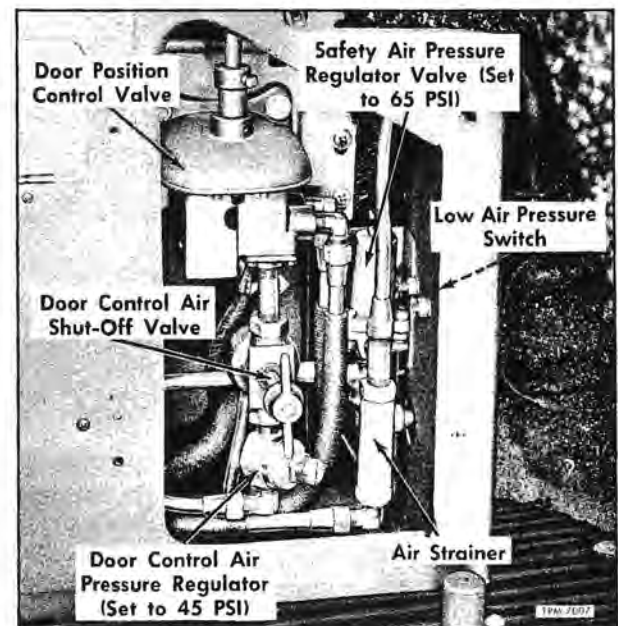
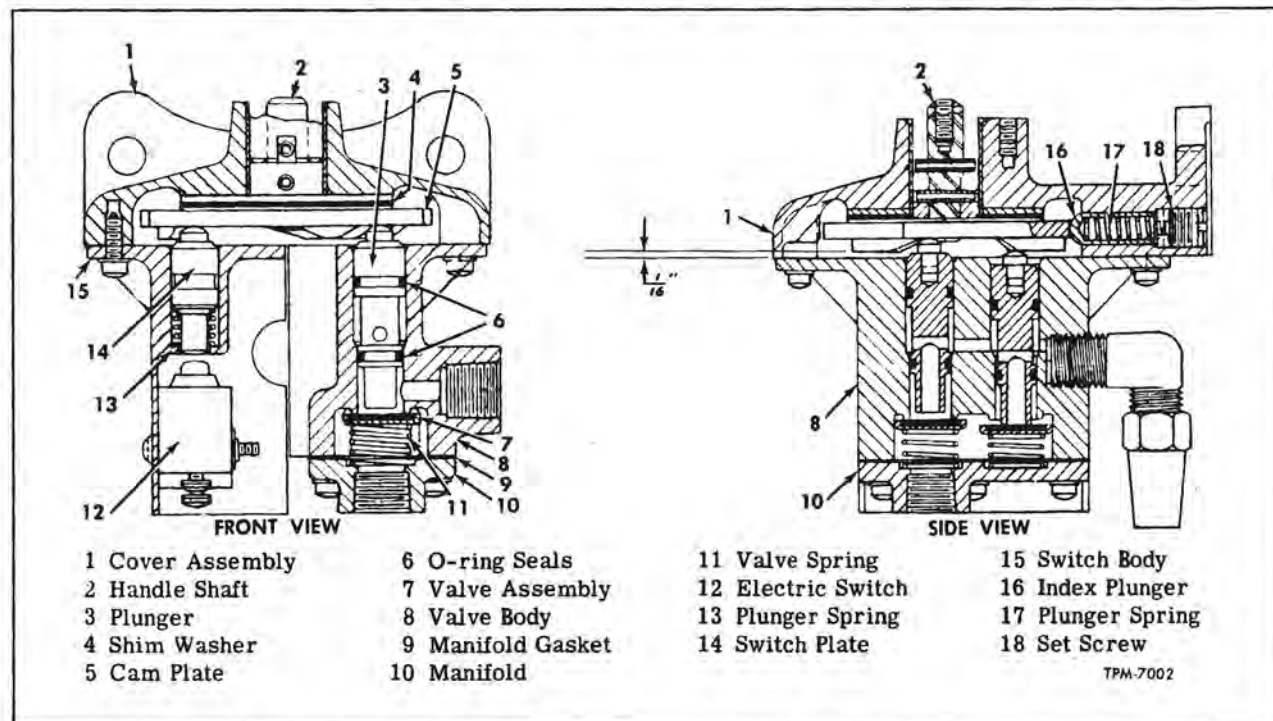
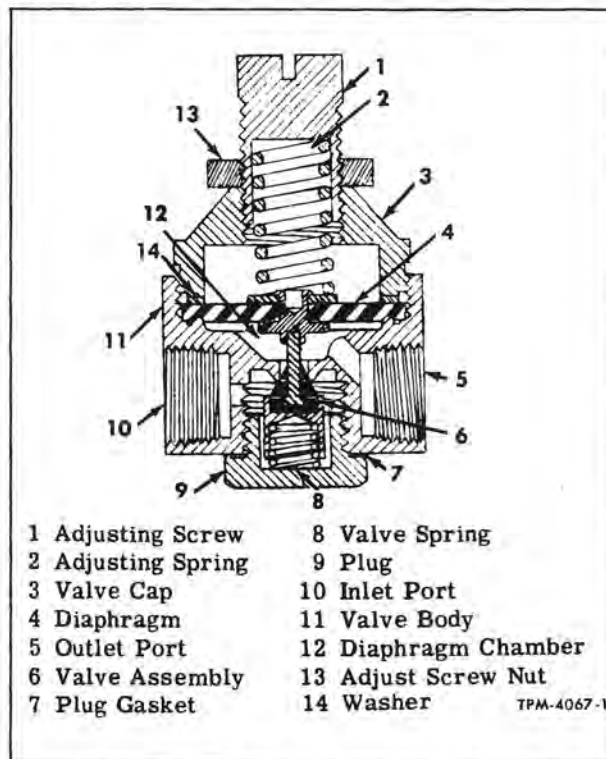

Figure 4—Door Control Units At Left of Driver
Figure 5—Sectional View of Door Control Valve
Figure 7—Front Door Air Pressure Regulator Valve
Valve controls the supply of air to operate front door engine. When valve is turned to "OFF" position, door can be manually opened and closed. Valve is installed as shown in figure 4.
Door control valve (fig. 5) is mounted below window sill at left of driver (fig. 4). Valve should be lubricated semi-annually. Turn door shut-off valve handle at left of driver to "OFF" position. Remove control valve from coach then disassemble.
NOTE: Key numbers in text refer to figure 5.
Pressure regulator valve (fig. 7), connected in air system is mounted in back of driver's control panel (fig. 4). Valve regulates air pressure (45 psi) to front door engine. Adjustment of valve is described later under "Air Pressure Adjustment."
NOTE: Key numbers in text refer to figure 7.
**NOTE:** Key numbers in text refer to figure 7.
1. Unscrew plug (9) and remove valve (6), with spring (8).
2. Remove adjusting screw (1), with lock nut (13) and remove adjusting spring (2).
3. Unscrew cap (3) from body (11) and remove diaphragm (4) and washer (14).
1. Position diaphragm (4) and washer (14) in body (11); then screw cap (3) into body.
2. Position adjusting spring (2) in cap; then start screw (1) with lock nut (13) in cap.
3. Position valve spring (8) and valve (6) in plug (9). Install plug with gasket (7) in body, tightening plug firmly.